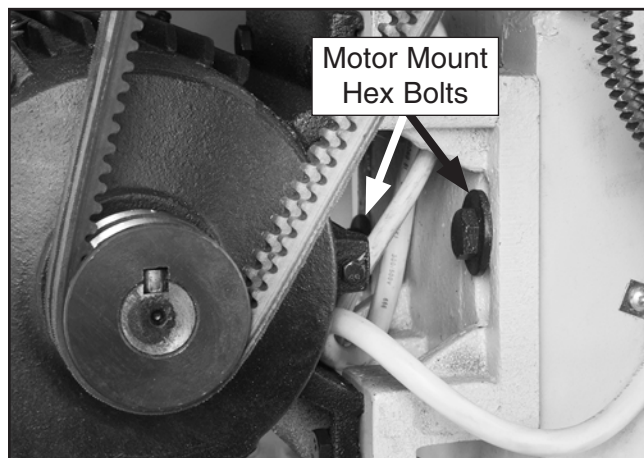

Figure 111. Locations of motor mount hex bolts.
3. Loosen motor mount hex bolts (see **Figure 111**).
3. Loosen motor mount bolts (see **Figure 111** on the previous page), slide motor up, and remove V-belts.